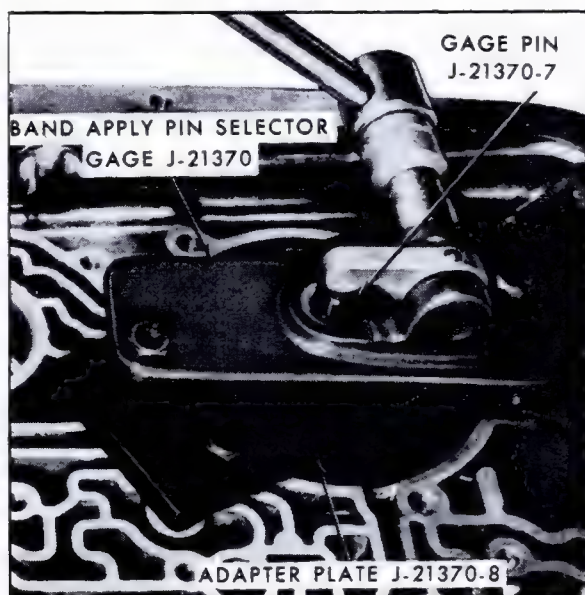

Fig. 7-160 Band Apply Pin Selection Check
h. Band Apply Pin Selection Check (Fig. 7-160)